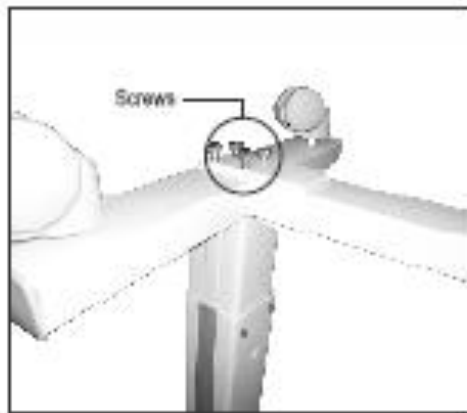

Fig 4
6. Hold the Base frame (Fig 4) upside down on the base of the stem and fasten it using the bolts